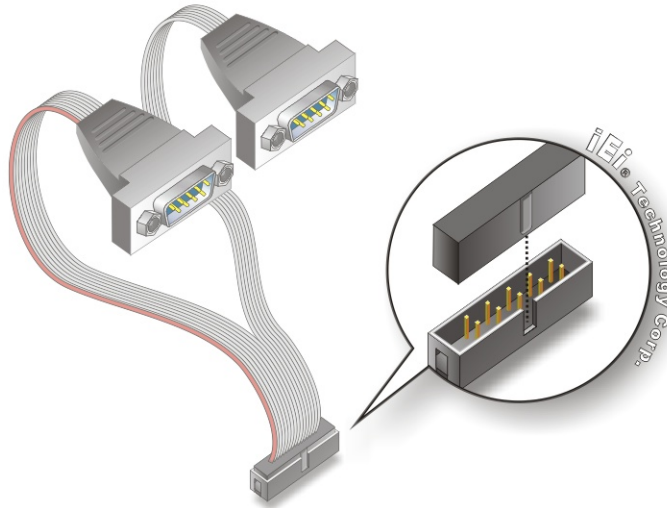

Figure 5-22: Dual Serial Port Connector Cable Connection
- Step 3: Insert the cable connectors** Once the cable connector is properly aligned with the COM2 serial port connector on the NANO-945GSE, connect the cable connector to the on-board connectors. See Figure 5-22.